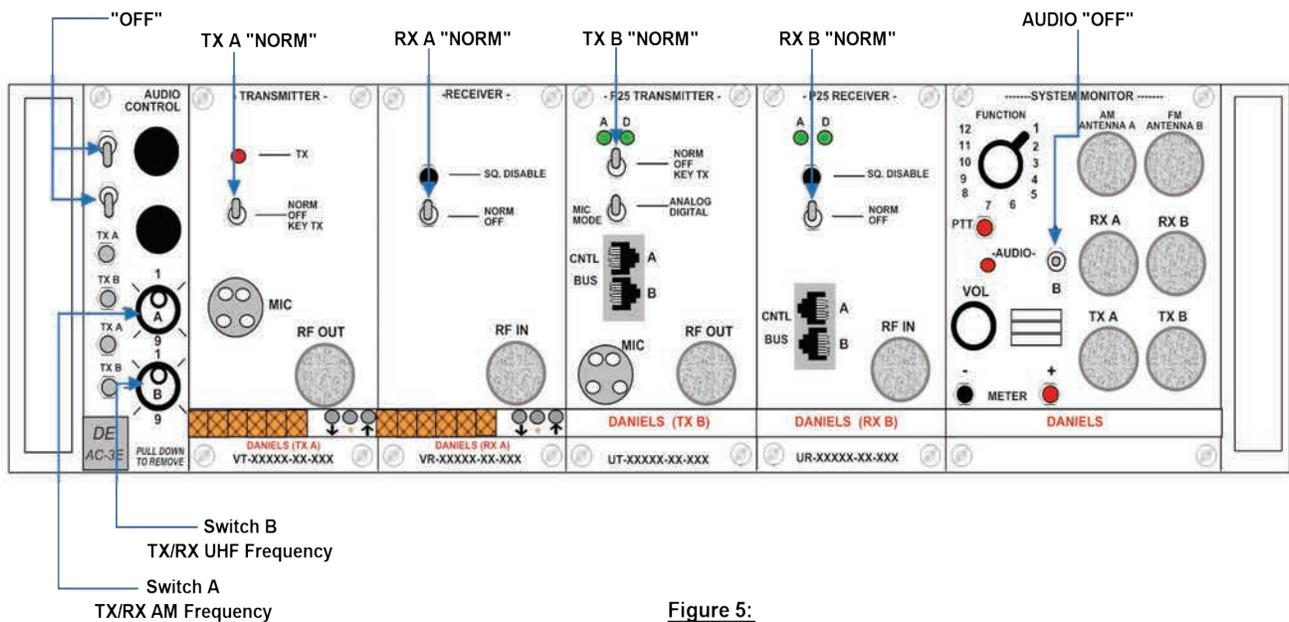

Figure 5:
9. Select the authorized assigned **FM UHF Link frequency** for both the **TX B** and **RX B** using the 16-position rotary **Switch B** (bottom rotary switch) on the AC-3E Module. *(See Figure 5)*